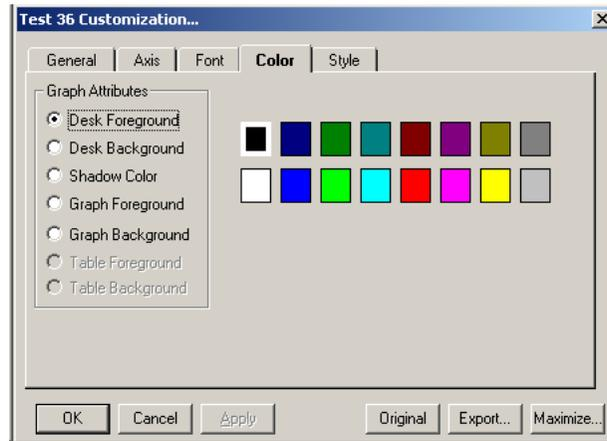

Figure 50 Customization Dialog Box—Color Tab
- **Color Tab**—Use the Color tab to define the various color parameters on the analysis graph. See Figure 50.